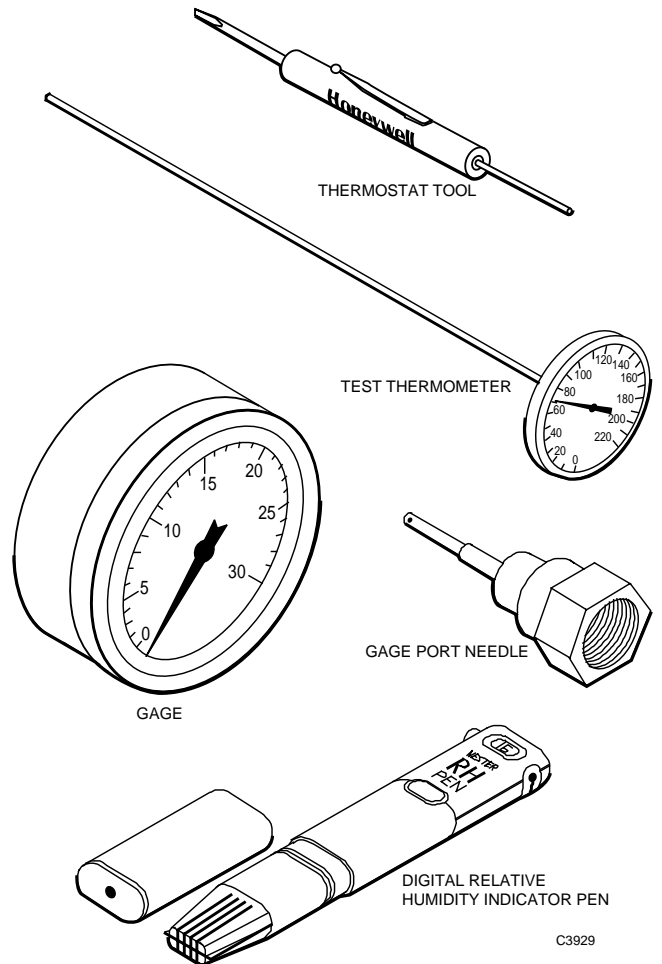

Fig. 14. TP970 and TP9600 Series Thermostat Calibration Tools.
See Figure 14 for tools necessary to calibrate TP970 and TP9600 Series thermostats.
3. All thermostats except the TP978E: Install Gage 305965 (0 to 30 psi [0 to 207 kPa]) with Gage Adapter 315161A (Fig. 14) into the branchline pressure gage tap (except TP978E).